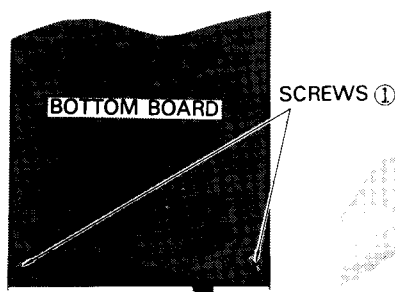

Fig. 1
1. Using a coin or similar object, remove the two screws (① in fig. 1)